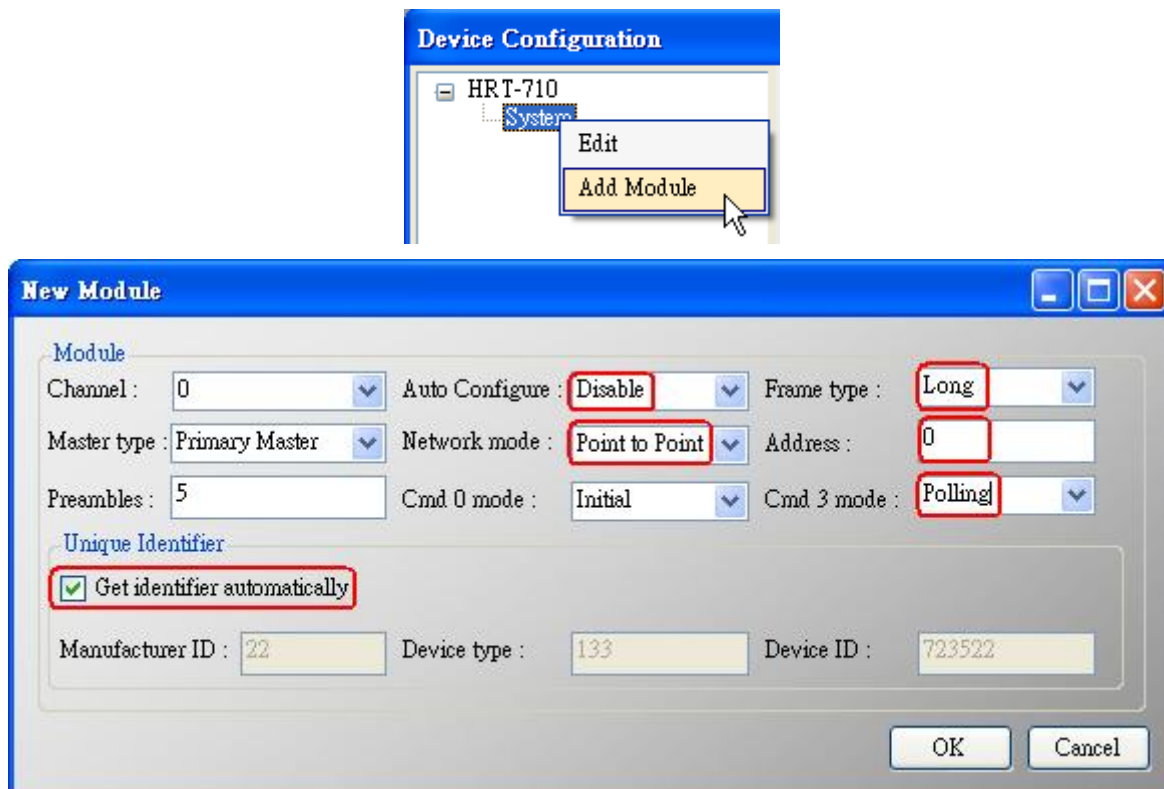

Figure 1-4 Add new HART device setting (Auto Config : Disable)
(2) Method 2 => Choose “Auto Configure” option to be Disable like Figure 1-4.